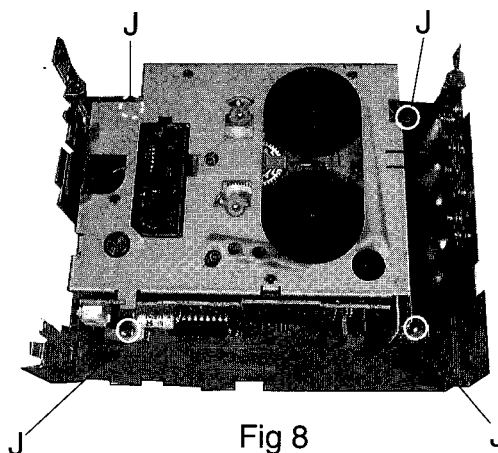

Fig 8
■ Cassette mechanism assembly (See fig8)